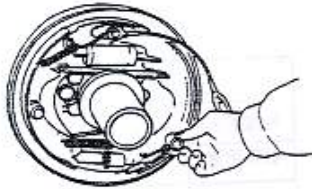

Fig. 2-28
- (5) Fix the parking brake cable with the E-shaped retainer ring.
- (6) Fit the brake shoe with a fixing ring, see Fig. 2-28.